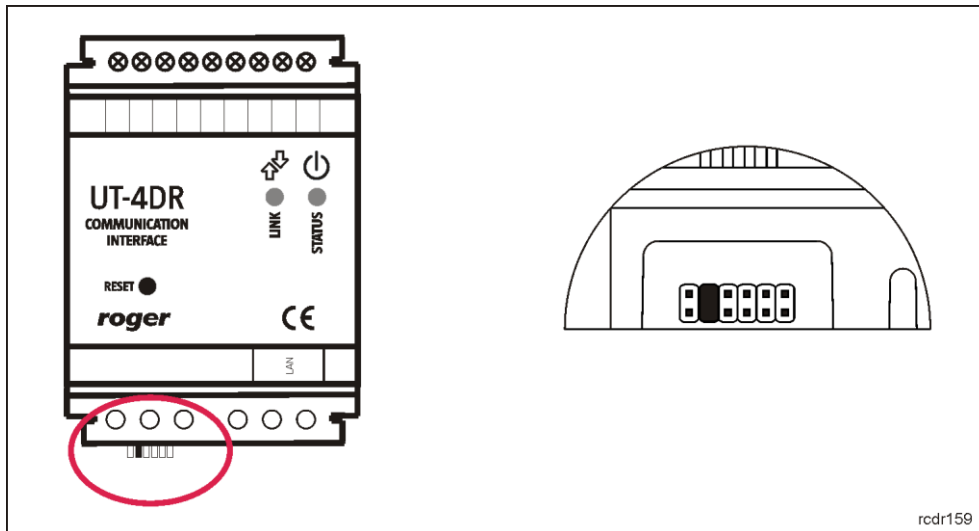

Fig.8 Jumper setting in memory reset procedure.
- Place jumper on contacts according to fig. 8